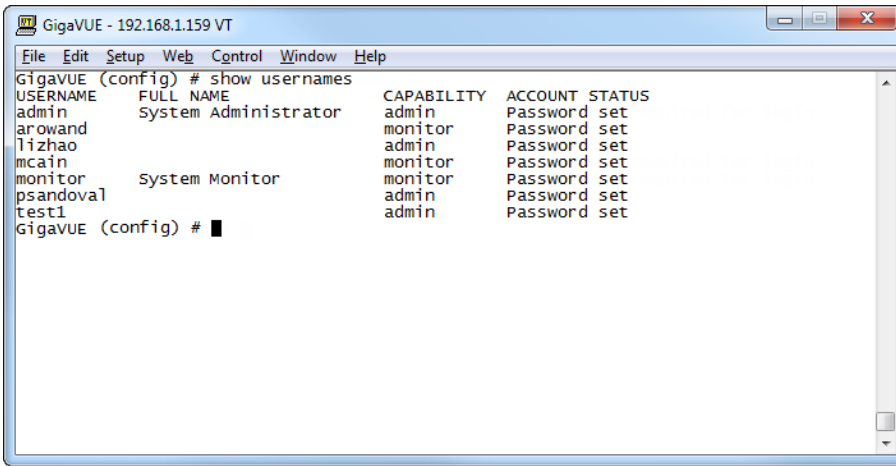

Figure 5 *Reviewing the User List*
2. Once you have configured these basic user accounts, use the **show usernames** command to review your settings. Figure 5 Reviewing the User List shows some sample **show usernames** output after several users have been added.